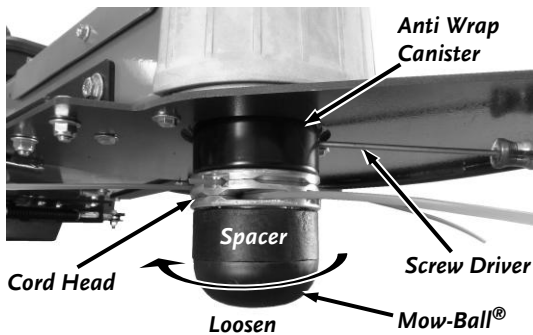

Figure 32
1. Align the hole in the Anti Wrap Canister with the hole in the internal housing at the location shown (**Figure 32**).